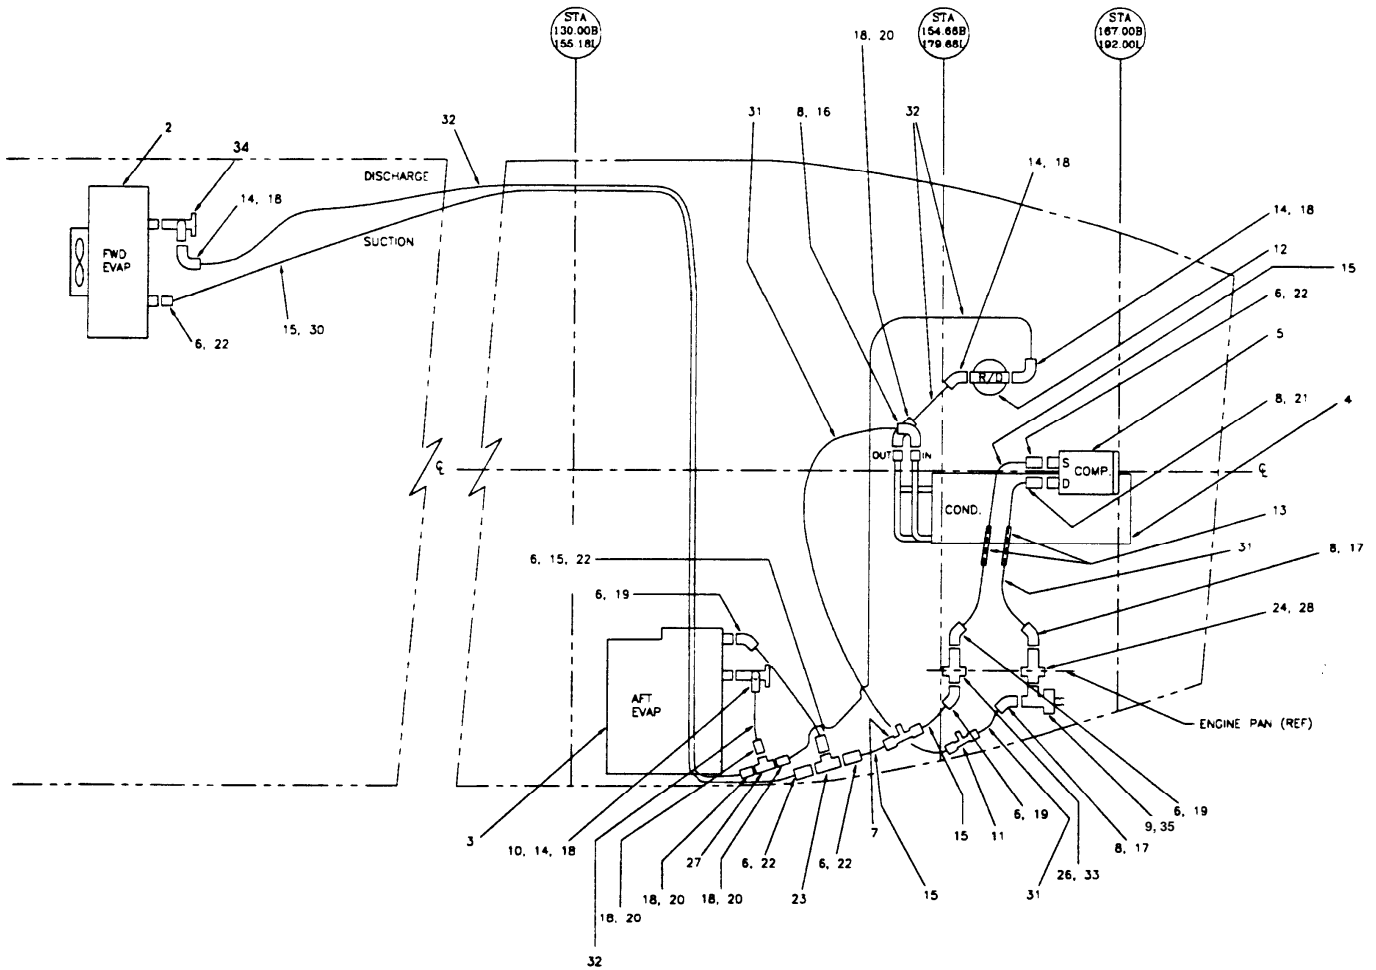

Figure 1. Plumbing System
3. PLUMBING CHECK PROCEDURES (REF. IPL Fig. 1)
IPL FIGURE 1